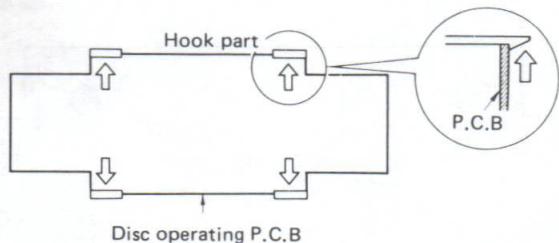

Fig. 6
- 3) When the tonearm mounting nut (G of Fig. 6) is removed, the tonearm will come off from the tonearm base.
- Dismount the disc operating button c. board shown in Fig. 6, by pushing it in the direction of the arrow.